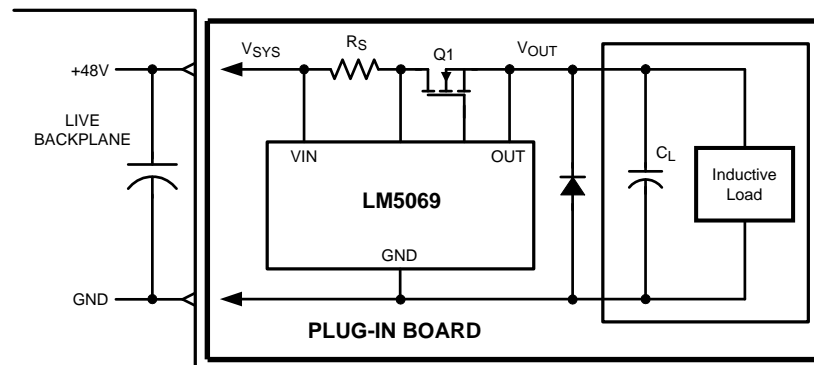

Figure 39. Output Diode Required for Inductive Loads
B) If the load powered via the LM5069 hot swap circuit has inductive characteristics, a diode is required across the LM5069’s output. The diode provides a recirculating path for the load’s current when the LM5069 shuts off that current. Adding the diode prevents possible damage to the LM5069 as the OUT pin will be taken below ground by the inductive load at shutoff. See Figure 39.